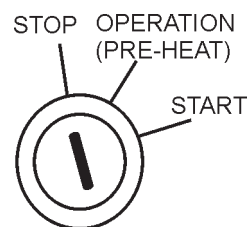

Figure 54. Ignition Switch (Stop Position)
- Place the ignition switch (Figure 54) in the “**STOP**” position, remove the key and store in a safe place.